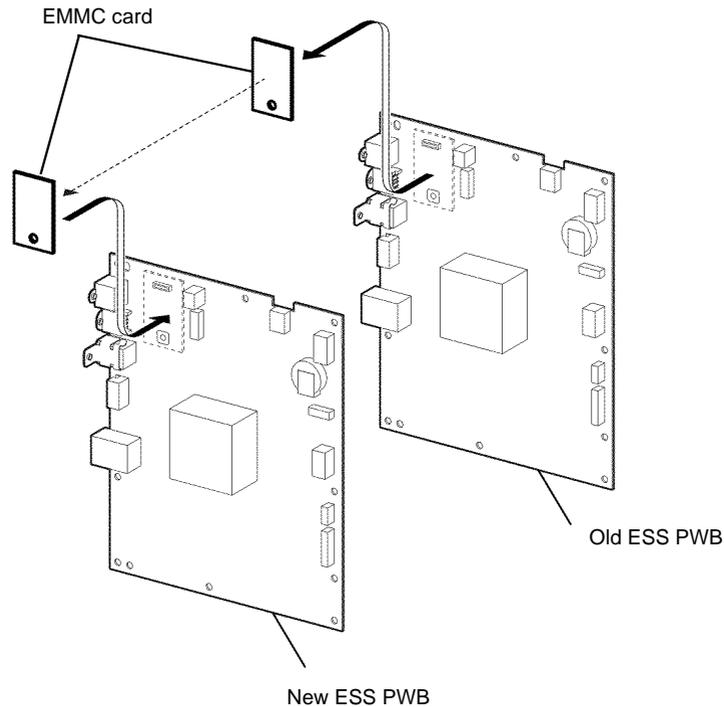

Figure 5 EMMC card
2. If a new ESS PWB is to be installed, remove the EMMC card from the old ESS PWB, then install it onto the new ESS PWB, Figure 5.